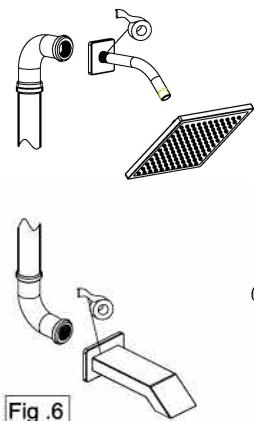

Fig .6
A. Install shower assembly and Tub spout with Pipe tape(see Fig. 6).